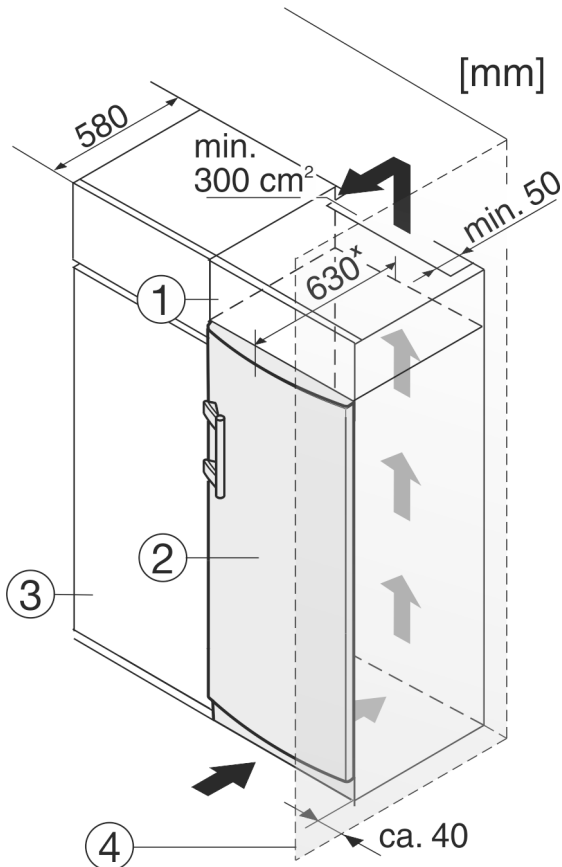

Fig. 12
- (1) Top cupboard (3) Kitchen cabinet
(2) Appliance (4) Wall
The appliance can be built into kitchen units. A top cupboard Fig. 12 (2) can be added above the appliance in order to bring the appliance Fig. 12 (1) up to the height of the fitted kitchen units.
When fitting kitchen cupboards around the appliance (max. depth 580 mm), you can install the appliance directly next to the kitchen cupboard Fig. 12 (3). The appliance protrudes 34 mm x to the side and 50 mm x in the centre of the appliance in relation to the kitchen cupboard front.
If the appliance is set up with the hinges next to a wall Fig. 12 (4), the distance between the appliance and the wall must be at least 40 mm. This is how far the handle protrudes when the door is open.